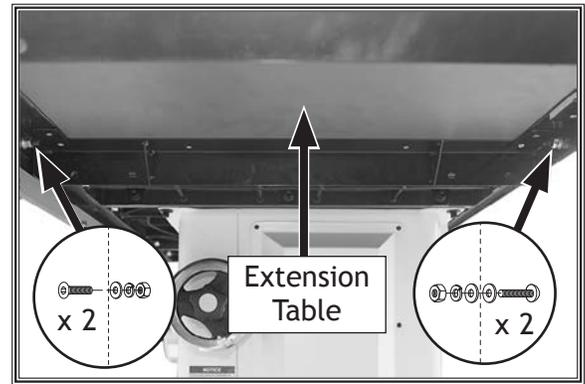

Figure 27. Extension table installed.
14. Attach extension table to front rail with (2) M8-1.25 x 20 flat head cap screws, 8mm flat washers, 8mm lock washers, and M8-1.25 hex nuts (see Figure 27).
15. Attach extension table to rear rail with (2) M8-1.25 x 25 cap screws, (4) 8mm flat washers, (2) 8mm lock washers, and (2) M8-1.25 hex nuts (see Figure 27).